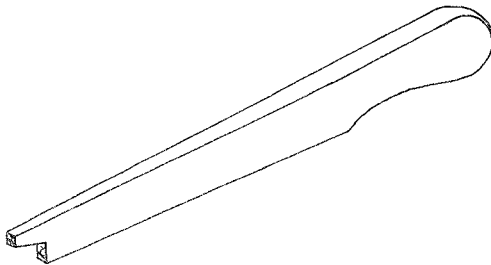

Fig. 1.20 Typical push stick.
2. It is illegal to feed a circular sawing machine without the aid of a push stick. As a general rule a push stick should be between 500 and 600mm long with a comfortable handle so as to encourage its use (**Fig. 1.20**).